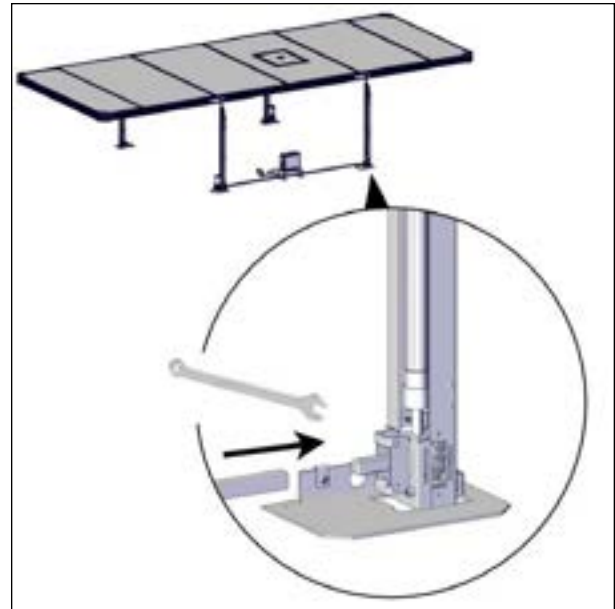

FIGURE 80: DRIVE SHAFT INSTALLATION ON THE NON-MOTOR SIDE
- On the same spa side, install the drive shaft onto the non-motorized jack's shaft see Figure 80.
If drive shaft does not line up with non-motorized jack's shaft, the use of a 3/4" (19 mm) wrench or adjustable wrench can help. Slightly rotate the shaft as shown in Figure 80.